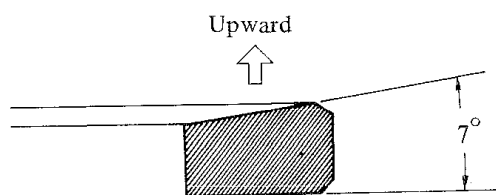

Fig. 7-3-4
- 1) Both the 1st and 2nd rings are of wedge type in their sectional views as illustrated in Fig. 7-3-4 and the ring grooves on piston are machined according to the shape of the rings. Therefore, the ring should be placed in proper direction otherwise the piston will not fit in the cylinder.